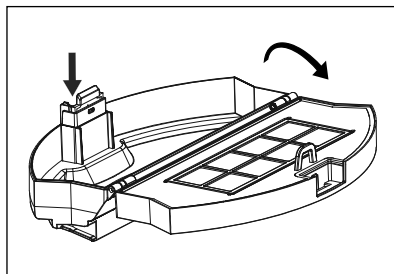

Fig. 8
- 2) Press the release button **15** of the dust container **16**, and fold it open (see Fig. 8).